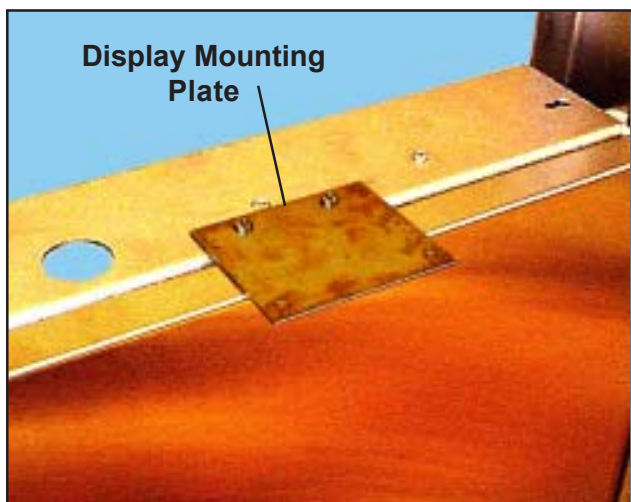

Figure 17. Mounting Plate on Sliding Carriage Cross Member
1. With a Phillips screwdriver and a 3/8-in. wrench, mount the display mounting plate to the top cross member of the sliding carriage with two 10-24 x .5-in. screws and locknuts (Figure 17).